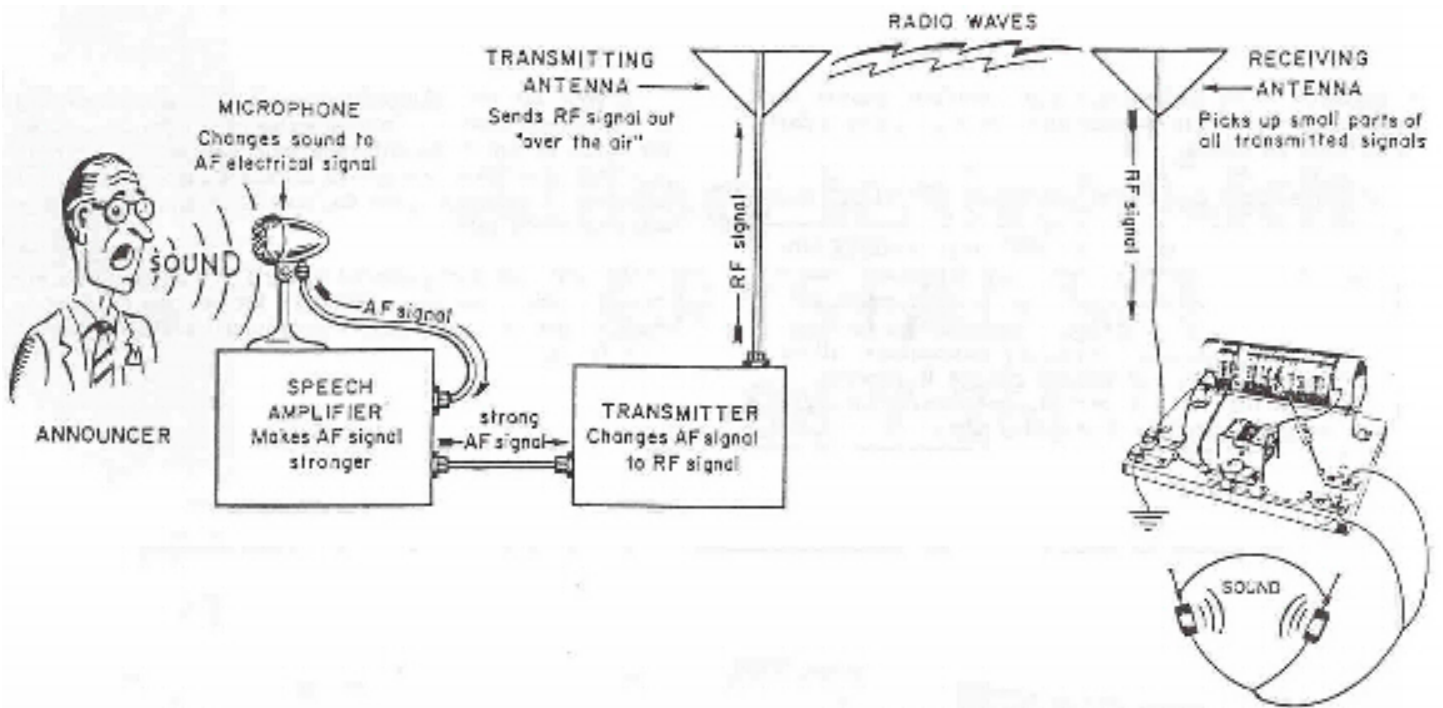

FIGURE 4. TYPICAL BROADCASTING AND RECEIVING SYSTEM
Figure 4 shows a typical broadcasting and receiving system. As the announcer talks, the vibration of his vocal cords disturbs the air molecules, causing them to bump together and create sound waves. The microphone changes these sound waves into very weak audio frequency (AF) electrical waves. These weak AF electrical waves are amplified many times by the speech amplifier.. After amplification, the AF signal is mixed with the strong radio frequency (RF) waves in the transmitter. This